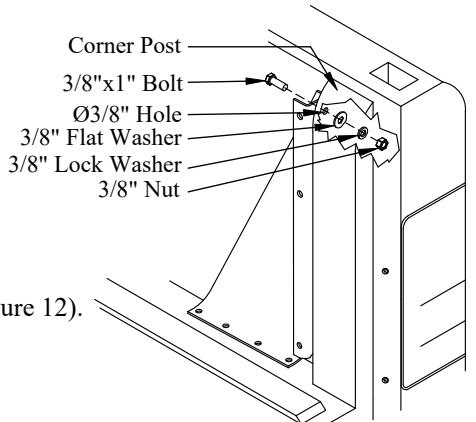

Figure 12: Additional support location.
1. Locate the existing 3/8" hole in the mounting bracket (Figure 12).
- (1) 3/8"x1" hex head bolt on the bracket-side (Figure 12).
- (1) 3/8" flat washer, (1) 3/8" lock washer, and (1) 3/8" nut on the truck-side (Figure 12).